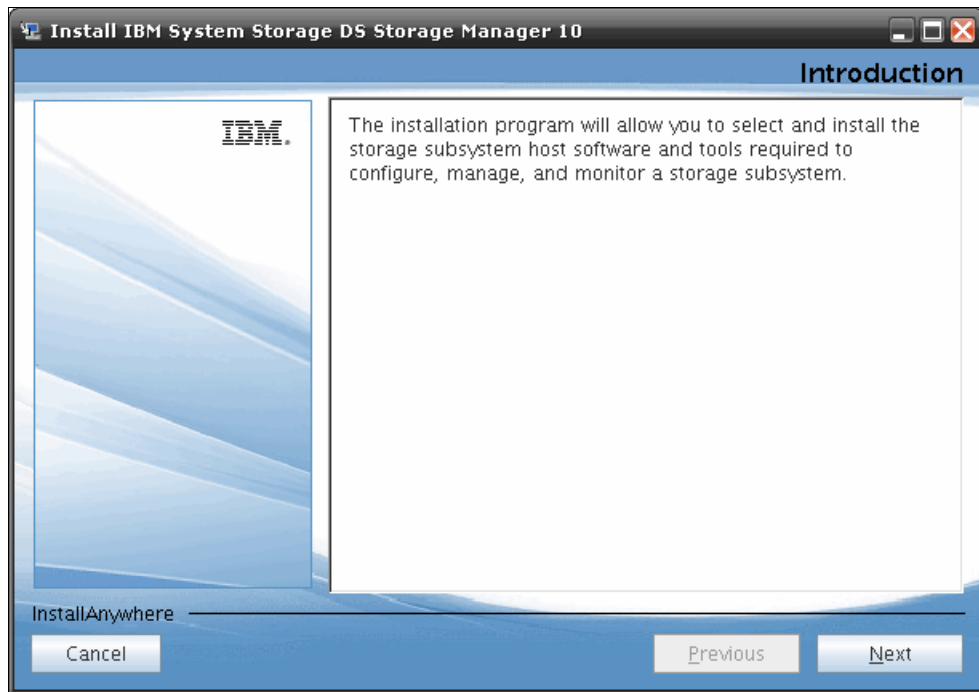

Figure 4-15 Introduction
4. Read the introduction and click **Next**, as shown in Figure 4-15.